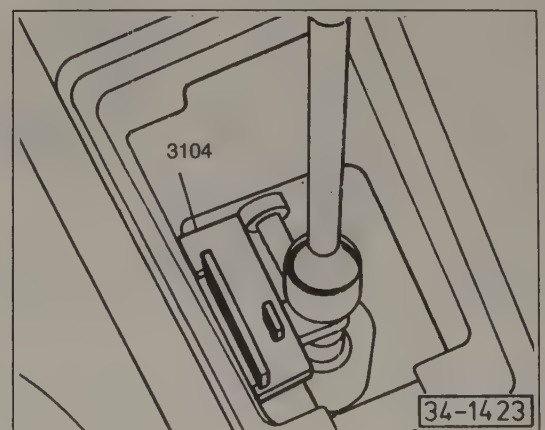

Fig. 4-4. Volkswagen alignment gauge (special tool no. 3104, order no. T03 104 000 34 ZEL) being used to align shift lever and selector lever.
4. Position the gearshift lever. If possible, use Volkswagen special tool no. 3104 and place it in the position shown in Fig. 4-4 at the base of the gearshift lever. Without disturbing the alignment, torque the clamp bolt to 26 Nm (19 ft. lb.).